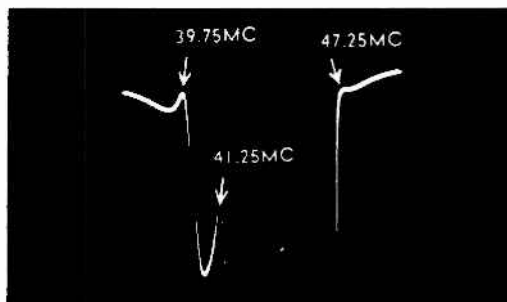

Fig. 9 Expanded View Of Traps
6. Adjust the 47.25 Mc, 39.75 Mc and 41.25 Mc (Top slug of 1st IF transformer) traps for minimum marker amplitude, see Fig. 9. It can be seen that maximum oscilloscope gain has been used and the response curve has been "run off" the oscilloscope screen in order to see a "blow up" of the trap slots.